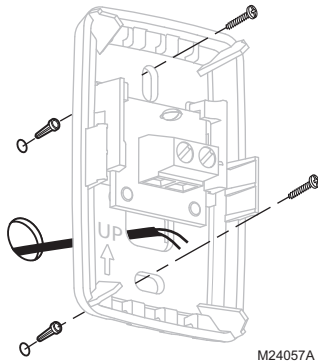

Fig. 36. Mount wallplate to wall
5. Place wallplate over anchors, insert and tighten mounting screws see Fig. 36.